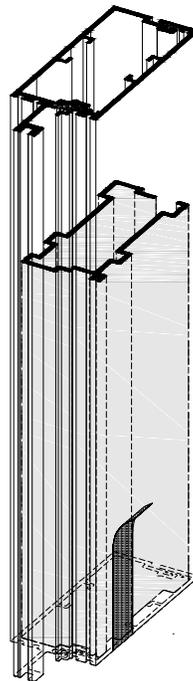

Fig. 42.2
- Slide the splice sleeves into the upper frame vertical. Tape the sleeve into position temporarily until verticals are erected. See Fig. 42.2.